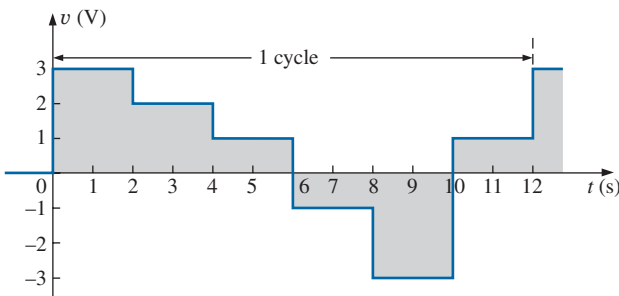

FIG. 13.107
52. Find the rms value of the periodic waveform in Fig. 13.107 over one full cycle.